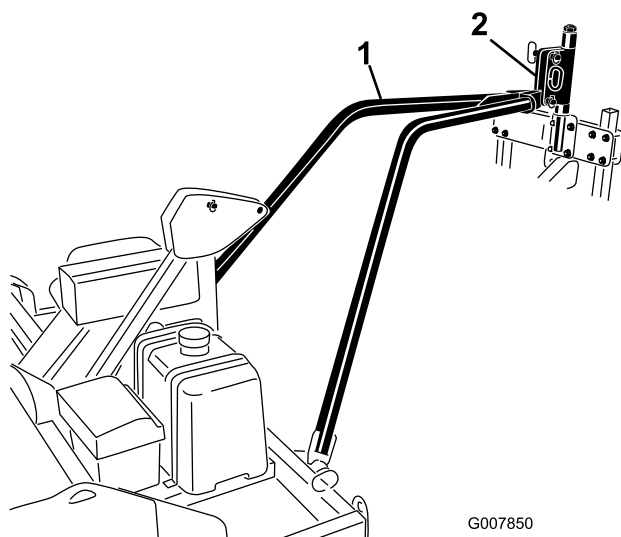

Figure 13
4. Remove the tie down or rope and lower the tow-arm-hitch plate into the aerator hitch pivot (Figure 13).